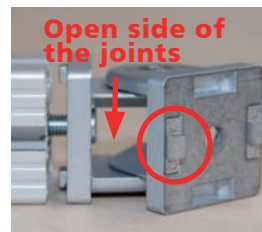

fig. 3.1-25
**Step 17** Place a T-nut into the lead channels at each side of the frame base profiles **A1c**. Put two (2) adjusting blocks opposite of each other into the provided holes of the joints.
This time it is very important to insert the adjusting blocks into the holes at the open sides of the joints (not the sides where the arms are located) (**fig. 3.1-25**). The number 8 on top of the adjusting blocks have to point outwards again (**fig. 3.1-26**). They will fit exactly into the lead channels. Now position the joints at the frame base profiles **A1c** and bolt them together using two (2) socket head screws **M8x16**, two (2) washers and the corresponding Allen key.